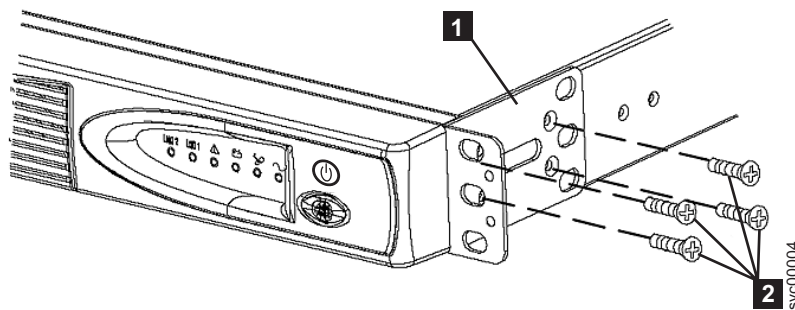

Figure 304. Installing the support rails for a 2145 UPS-1U into the rack
2. On each side of the 2145 UPS-1U, attach the long end of a mounting bracket to the 2145 UPS-1U using four of the supplied M3 × 6 screws (**2** in Figure 304).